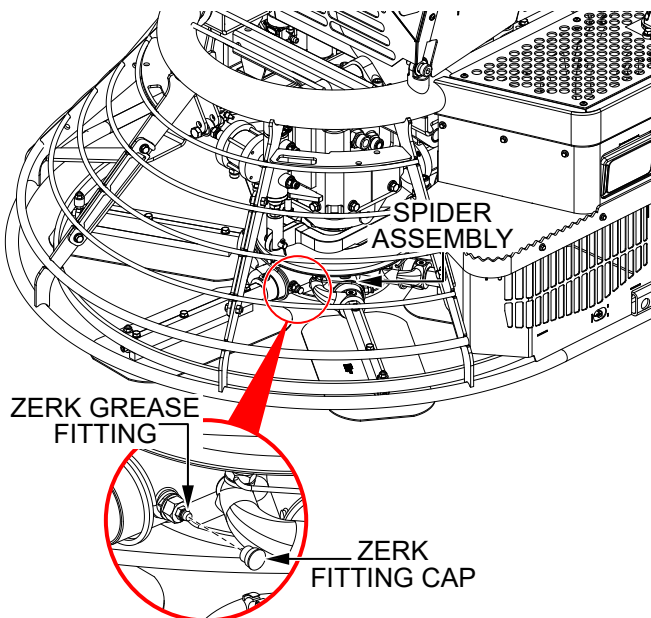

Figure 42. Spider Lubrication
1. Locate one of the Zerk grease fittings on either spider assembly (Figure 42). Remove the Zerk fitting cap and set it aside.